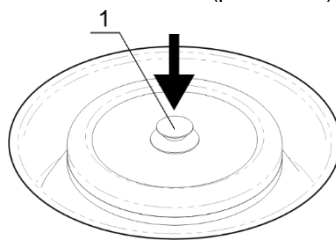

Fig. 2. Rotor lid installation
- place the rotor lid on the rotor pressing the lid holder down tightly (fig.2/1).